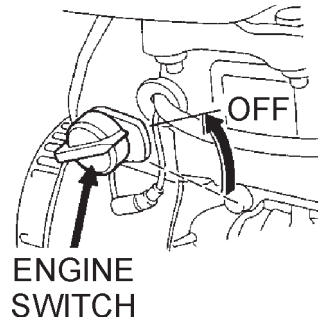

Figure 30. Engine ON/OFF Switch (OFF Position)
- After the engine **cools**, turn the engine start/stop switch to the "**OFF**" position (Figure 30).